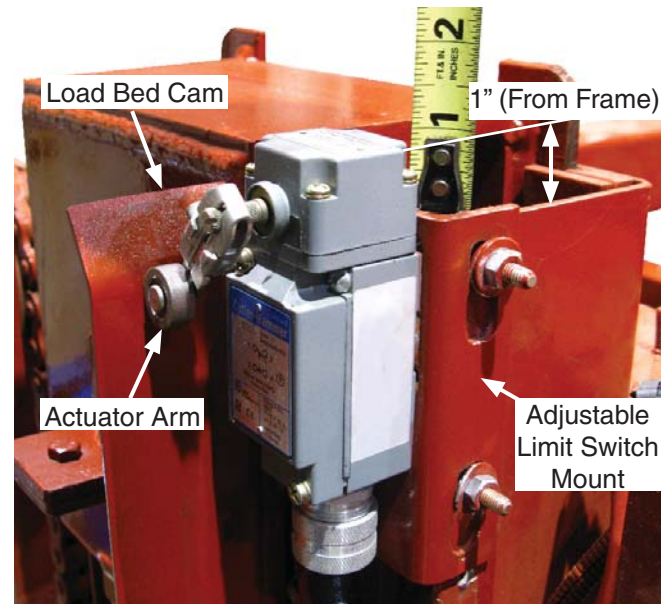

Figure 37 - Limit Switch - 16 Adjustment
1. Adjust the arm so it is positioned properly to touch the cam. The arm should be positioned such that it will not bind or bend when contacting the cam surface. This will happen if the roller is adjusted to contact the surface at a perpendicular angle (see Figure 37).